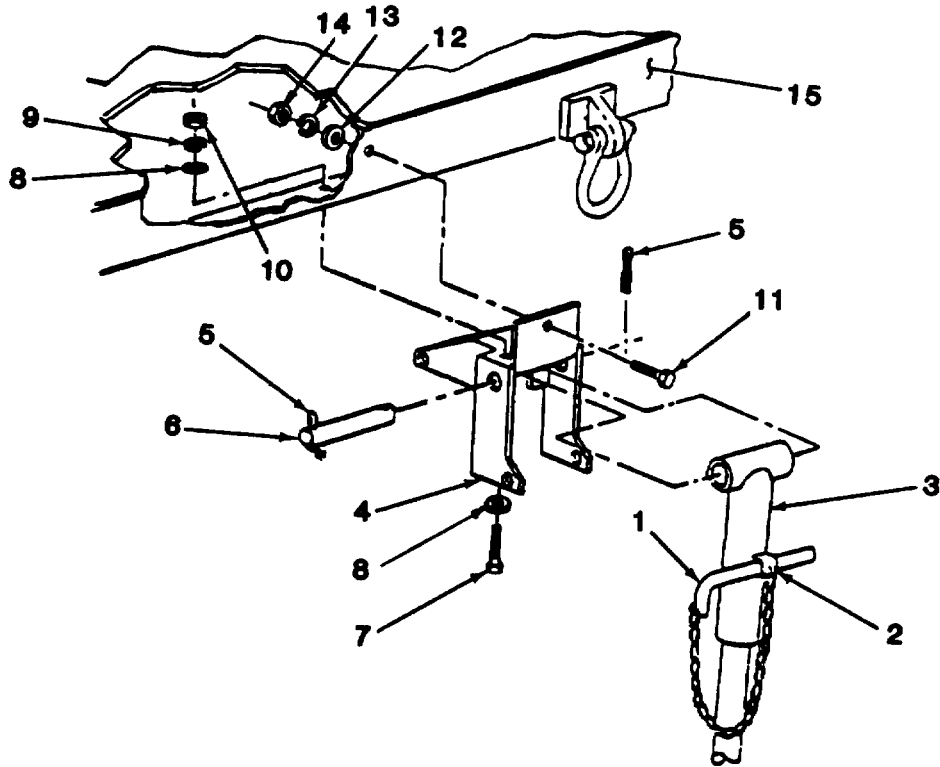

Figure 5-7. Rear Leg Prop Assembly Replacement.
a. Leg Prop Assembly Removal. (See figure 5-7.)
- (1) While supporting rear leg prop assembly, pull out angled bar (1, figure 5-7) and lower the leg prop assembly from its traveling position.
- (2) Line up boss (2) on upper leg (3) with holes in bracket (4) and insert angled bar (1) to lock leg in support position.
- (3) Remove either one of two cotter pins (5) from leg prop assembly pivot shaft (6).
- (4) While steadying leg prop assembly, remove shaft (6) with remaining cotter pin (5) in place.
- (a) Clamp upper leg (2) in vise with spring pin hole facing up.
- (b) Insert leg base (3) into upper leg and turn leg base until hole in screw lines up with hole in upper leg.
- (c) Install spring pin (1) to secure leg base to upper leg.
- (1) Position bracket (4, figure 5-7) on trailer frame (15) and install two screws (7), four flat washers (8), two lockwashers (9) and nuts (1U).
- (2) Install screw (11), flat washer (12), lockwasher (13), and nut (14). Tighten all hardware.
- (3) Lift rear leg prop assembly into bracket (4) and secure by inserting angled bar (1) through holes in bracket and boss (2) on upper leg (3).
- (4) Position rear leg prop assembly to line up boss on top of leg with pivot holes in bracket (4). Insert pivot shaft (6).
- (5) Insert cotter pin (5) in pivot shaft (6) and bend cotter pin legs in opposite directions.
- (6) Pull out angled bar (1) to unlock leg prop assembly.
- (7) Swing rear leg prop assembly up into traveling position and secure by inserting angled bar (1) through holes in bracket (4) and boss (2) on upper leg (3).